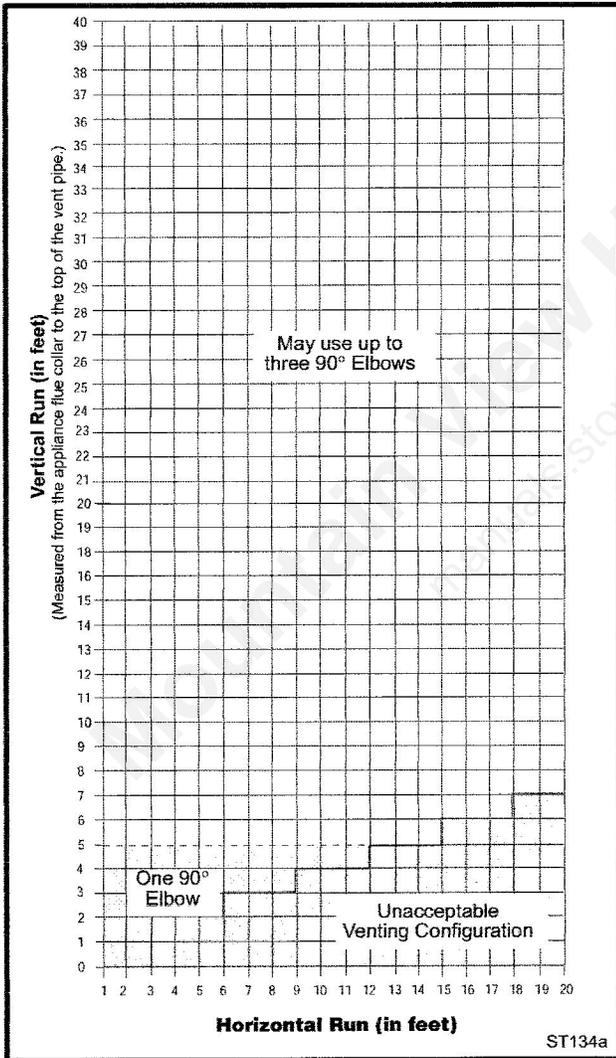
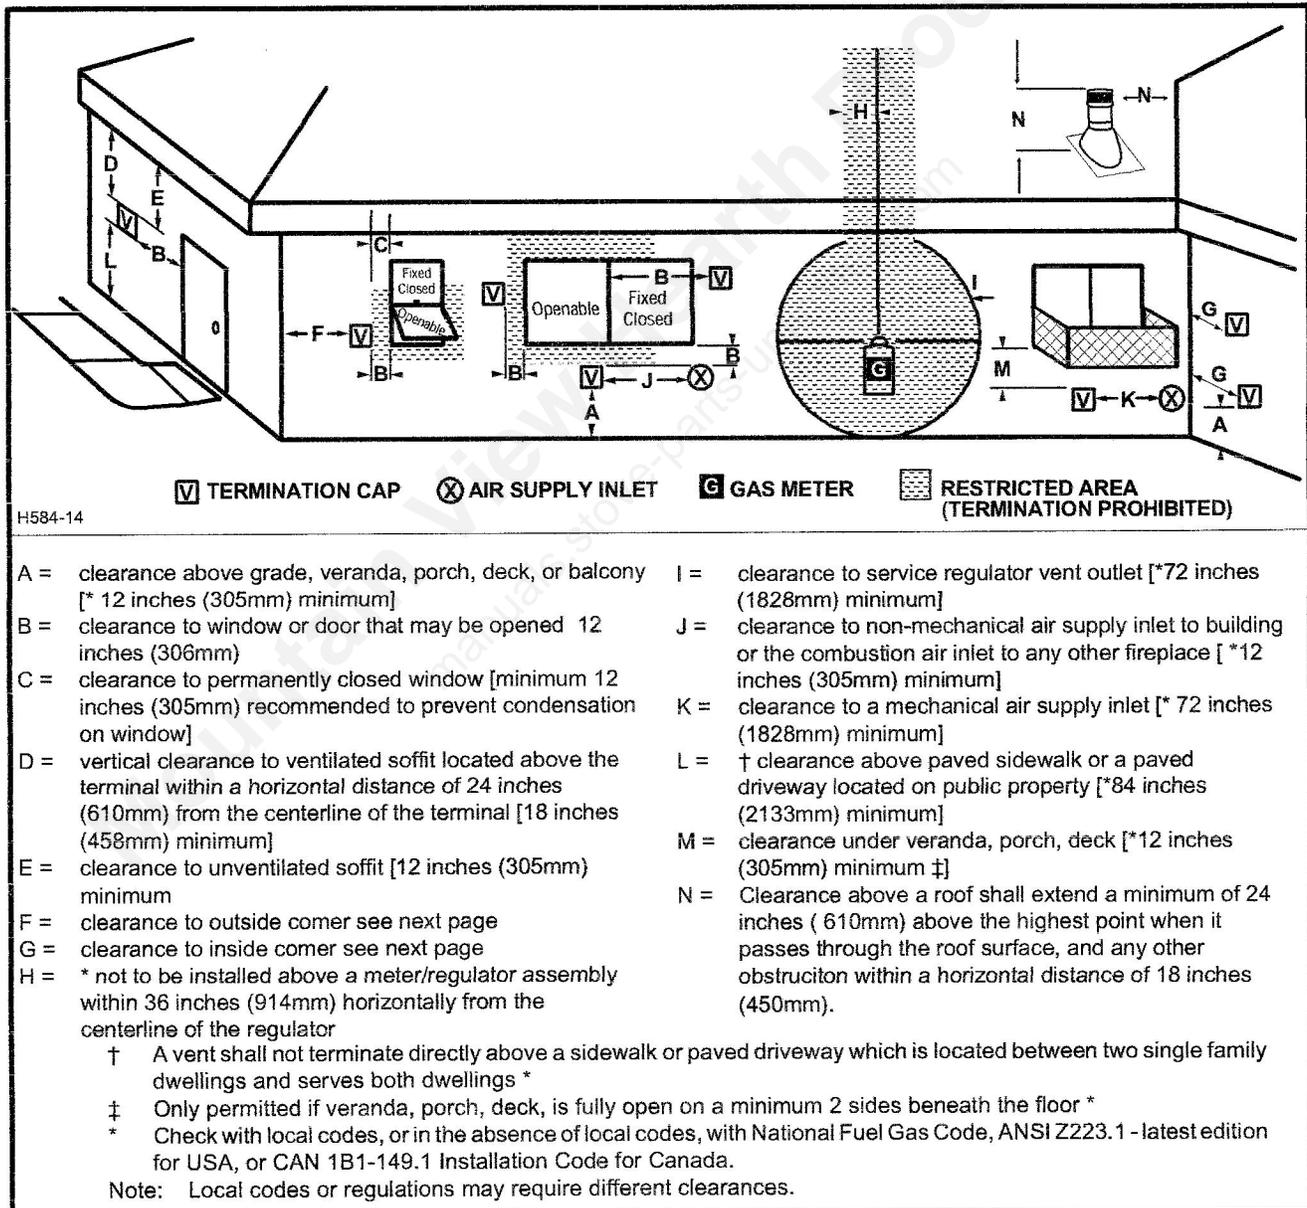

Fig. 7 Horizontal vent termination window.
Fig. 10 Vent termination clearances.
The vent must rise vertically a minimum of 24" (610mm) off the top of the unit, before the first elbow. The horizontal run may extend up to 20' (6m) and include a vertical rise of up to 40' (12m). (Fig. 7) Horizontal termination must also meet the criteria shown in Figures 10 through 12.
- Approved vent systems must terminate above and including the heavy line in Figure 7.
When planning the installation, consider the location of the vent terminal and clearances. Some of the most common clearances to keep in mind are shown in Figure 10.
Important: All vent clearances must be maintained. Check your vent termination clearances against Figures 10 through 12.